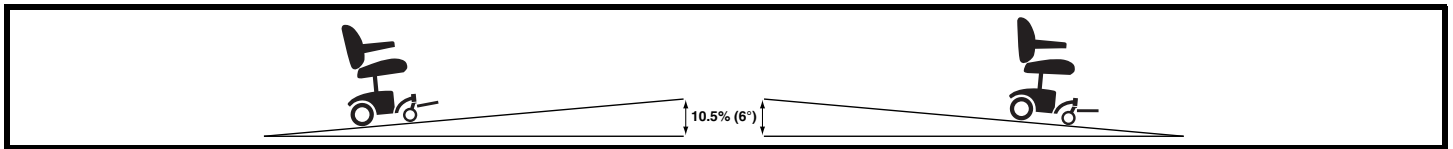

Figure 1. Maximum Recommended Safe Slope (Ascending and Descending)
**WARNING! Even though your power chair is capable of climbing slopes greater than those illustrated in figure 1, do not, under any circumstances, exceed the incline guidelines or any other specifications presented in this manual. Doing so could cause instability in your power chair.**
Pride recommends that the maximum slope of an incline you attempt to safely ascend or descend on your power chair does not exceed 10.5% (6°). See figure 1.